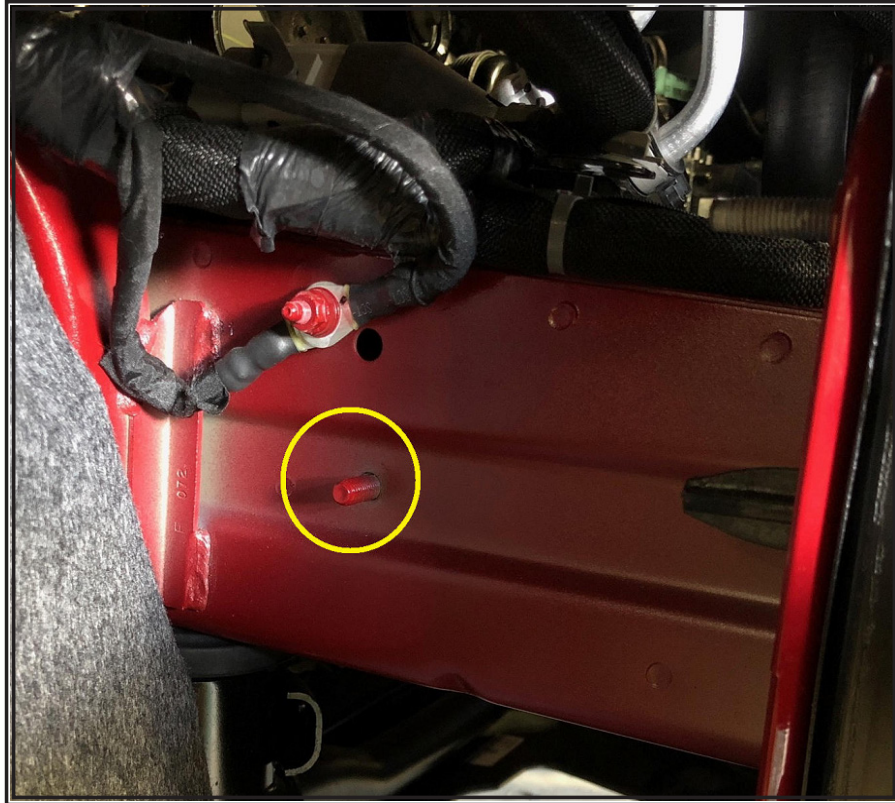

Figure 1
Step 2. Using the factory stud pictured in Figure 1, mount the Speaker with bracket using the washer and M8 nyloc nut provided in the kit.